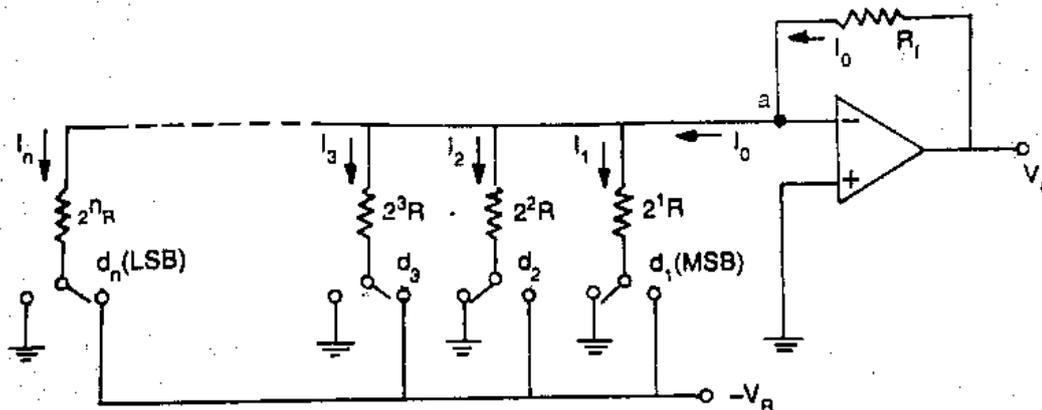

Fig. 3.56 A simple weighted resistor DAC
- ❖ Although the op-amp in Fig. 3.56 is connected in inverting mode, it can also be connected in non-inverting mode.